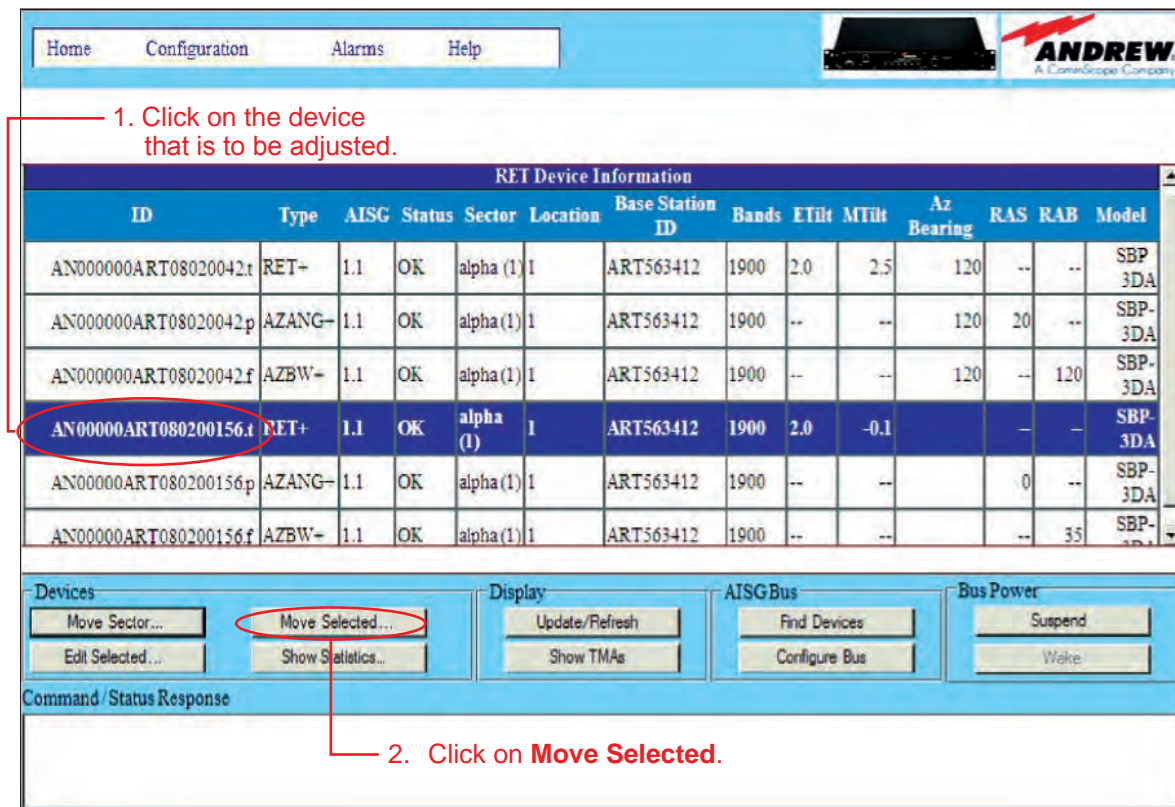

Figure 19-1. Selecting Device To Be Adjusted.
1. From the controller’s main interface screen, select the device ending in a “.t” (for “tilt”) to be moved (Figure 19-1).
2. Click on **Move Selected** (Figure 19-1).